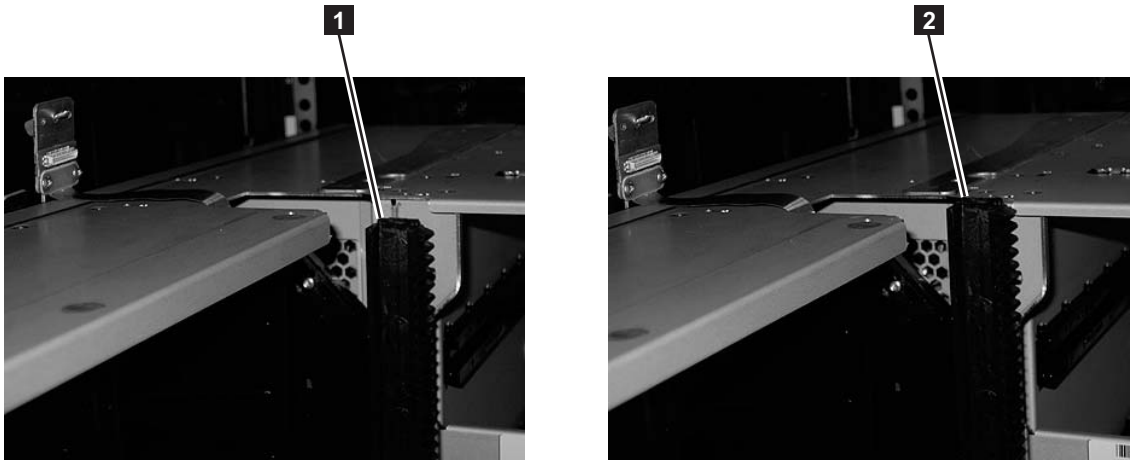

Figure 3-21. Gear racks positions (rear gear racks shown)
5. Ensure that the front and rear gear racks of both the control module and the expansion module are locked in the upper position (see **2** in Figure 3-21 on page 3-21).
1. **IMPORTANT:** Ensure that the front and rear gear racks are in the down (operating) position (see **1** in Figure 3-21 on page 3-21).